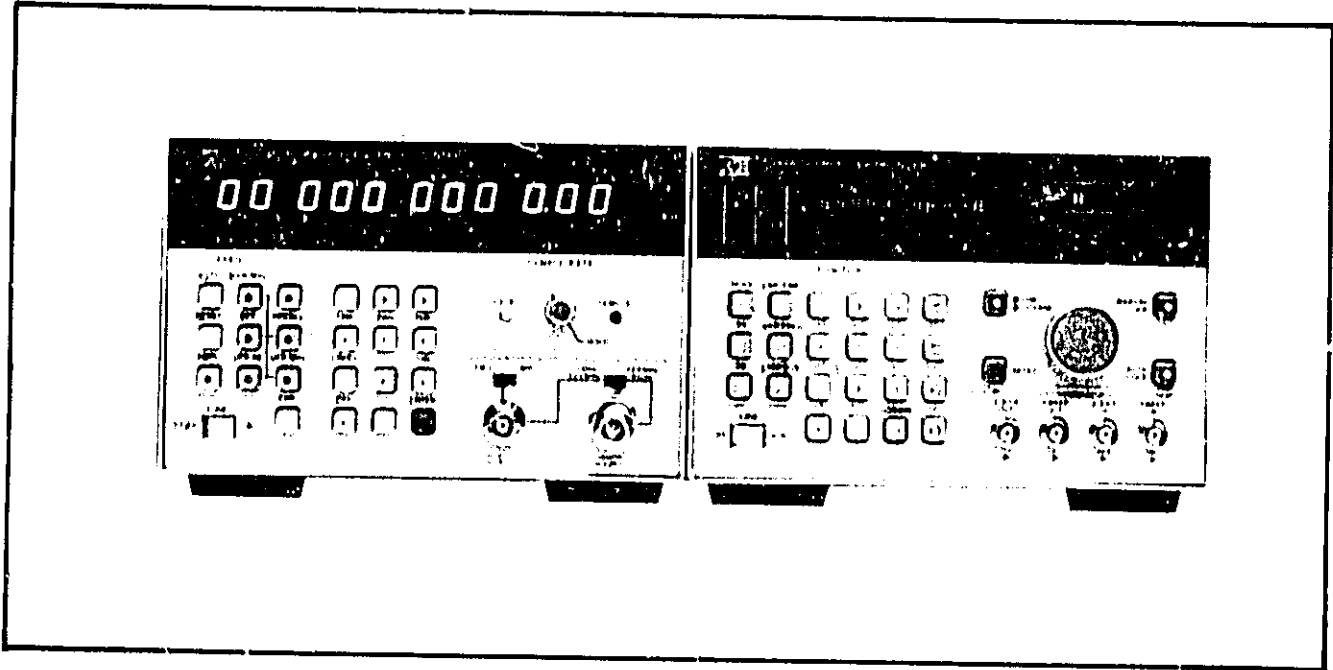

Figure 4-2. Lamp Test Diagnostic
- c. With no inputs applied (and input switch set to the higher frequency position), verify that the 5342A/43A display contains "00 000 000 000". The AUTO key annunciator should be lighted and (if the SAMPLE RATE control is not in the HOLD position) the gate light should be flashing. See Figure 4-2.
*Pressing the "up arrow", while in the Keyboard diagnostic automatically branches to the Lamp test diagnostic. The Lamp test diagnostic lights all front panel LEDs and annunciators, as shown in Figure 4-2. Pressing the "down arrow" will return the 5344A to the Keyboard diagnostic.